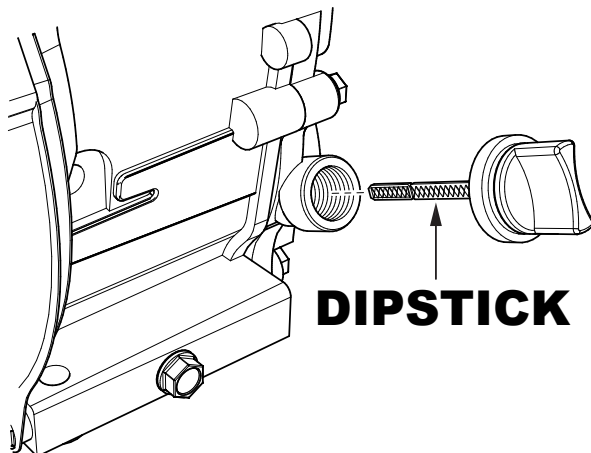

Figure 5. Engine Oil Dipstick
2. Remove the **dipstick** (Figure 5) from the engine oil filler hole and wipe it clean.